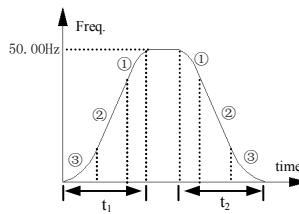

Fig.6-2 S curve Acc/Dece
1: S curve Acce/Dece mode. Output frequency increases or decreases according to S curve, just as shown in Fig.6-2.
S curve starting time is shown as Fig. 6-2③, slope of output frequency variation increases by degrees from 0.
S curve rising time is shown as Fig.6-2②, slope of output frequency variation is constant.
S curve ending time is shown as Fig.6-2①, slope of output frequency variation steps down to 0.